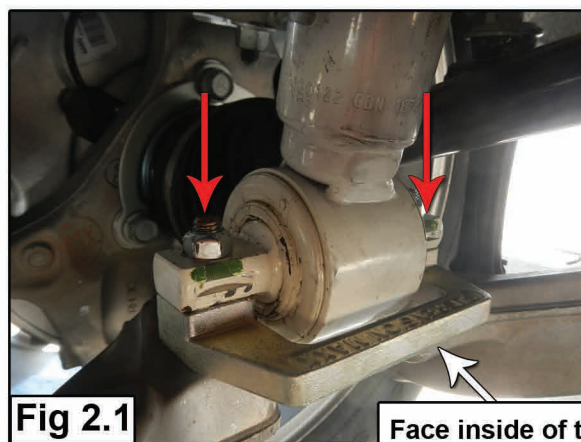

Fig 2.1
Align mounting holes and reinstall vertical bolts. Torque to 35 ft. lbs. (Fig 2.1)
Align mounting holes and install new bolts, washers, and nuts supplied with the kit. Torque to 35 ft. lbs. (Fig 2.1)
19. Insert MAXXstak strut leveling lift spacer between lower a-arm and strut. Align mounting holes and install the supplied bolt, washers, and nuts. Torque to 35 ft. lbs. See (Fig 2.1).